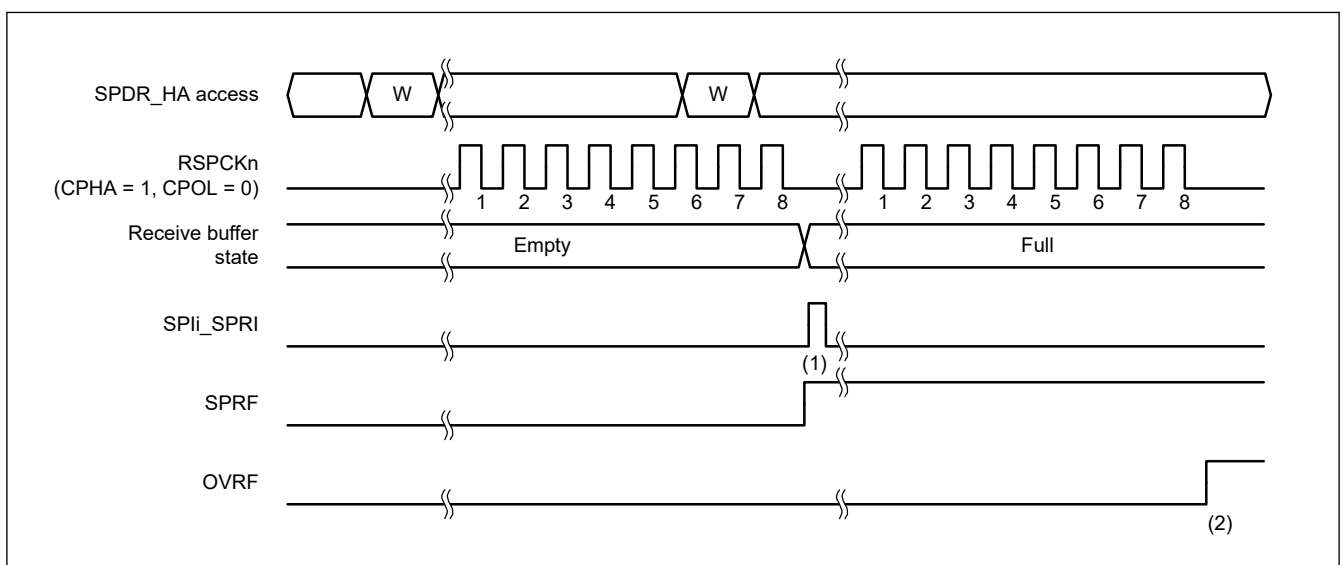
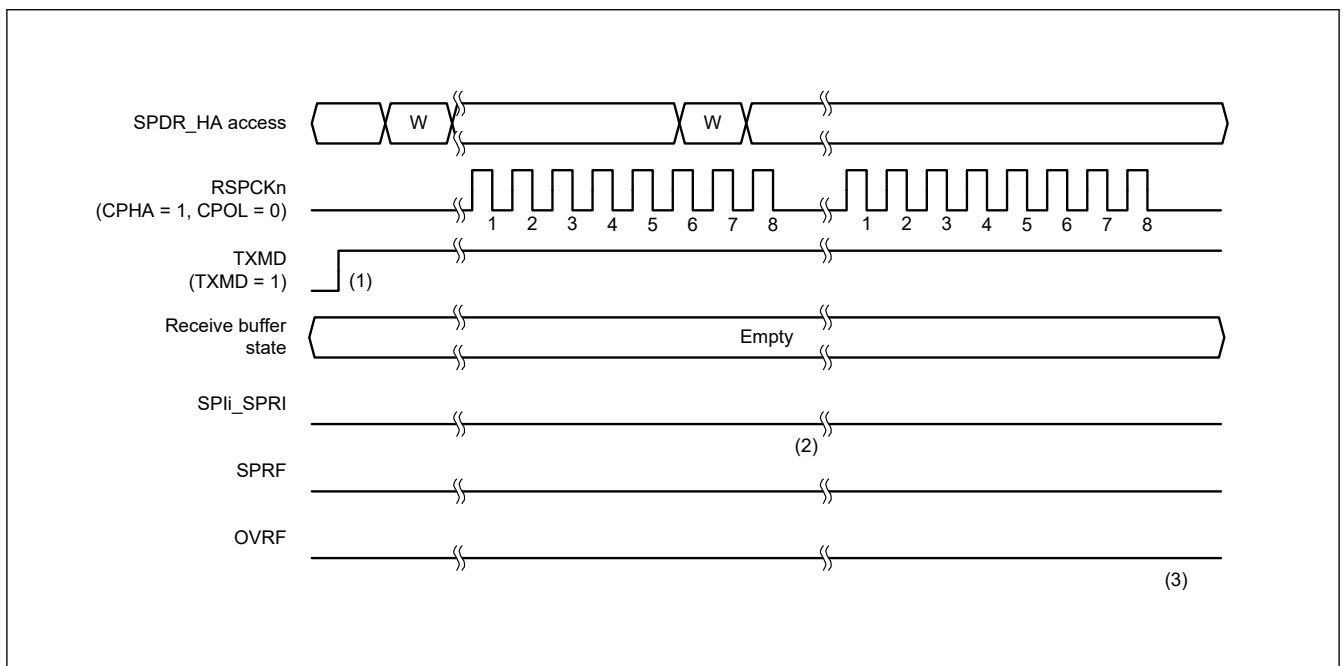

Figure 28.24 Operation example when SPCR.TXMD = 0
Figure 28.25 Operation example when SPCR.TXMD = 1
Full-duplex synchronous serial communications or transmit operations can only be selected in the Communications Operating Mode Select bit (SPCR.TXMD). The register accesses shown in Figure 28.24 and Figure 28.25 indicate the condition of access to the SPDR/SPDR_HA register, where W denotes a write cycle.
Figure 28.24 shows an example of operation when the Communications Operating Mode Select bit (SPCR.TXMD) is set to 0. In this example, the SPI performs an 8-bit serial transfer when the SPCMD0.CPHA bit is 1, and the SPCMD0.CPOL bit is 0. The numbers given for RSPCKn in the waveform represent the number of RSPCK cycles, such as the number of transferred bits.
The operation of the flags at timings (1) and (2) in Figure 28.24 is as follows:
Figure 28.25 shows an example of operation when the Communications Operating Mode Select bit (SPCR.TXMD) is set to 1. In this example, the SPI performs an 8-bit serial transfer when the SPCMD0.CPHA bit is 1, and the SPCMD0.CPOL bit is 0. The numbers given for RSPCKn in the waveform represent the number of RSPCK cycles, such as the number of transferred bits.
The operation of the flags at timings (1) to (3) in Figure 28.25 is as follows: